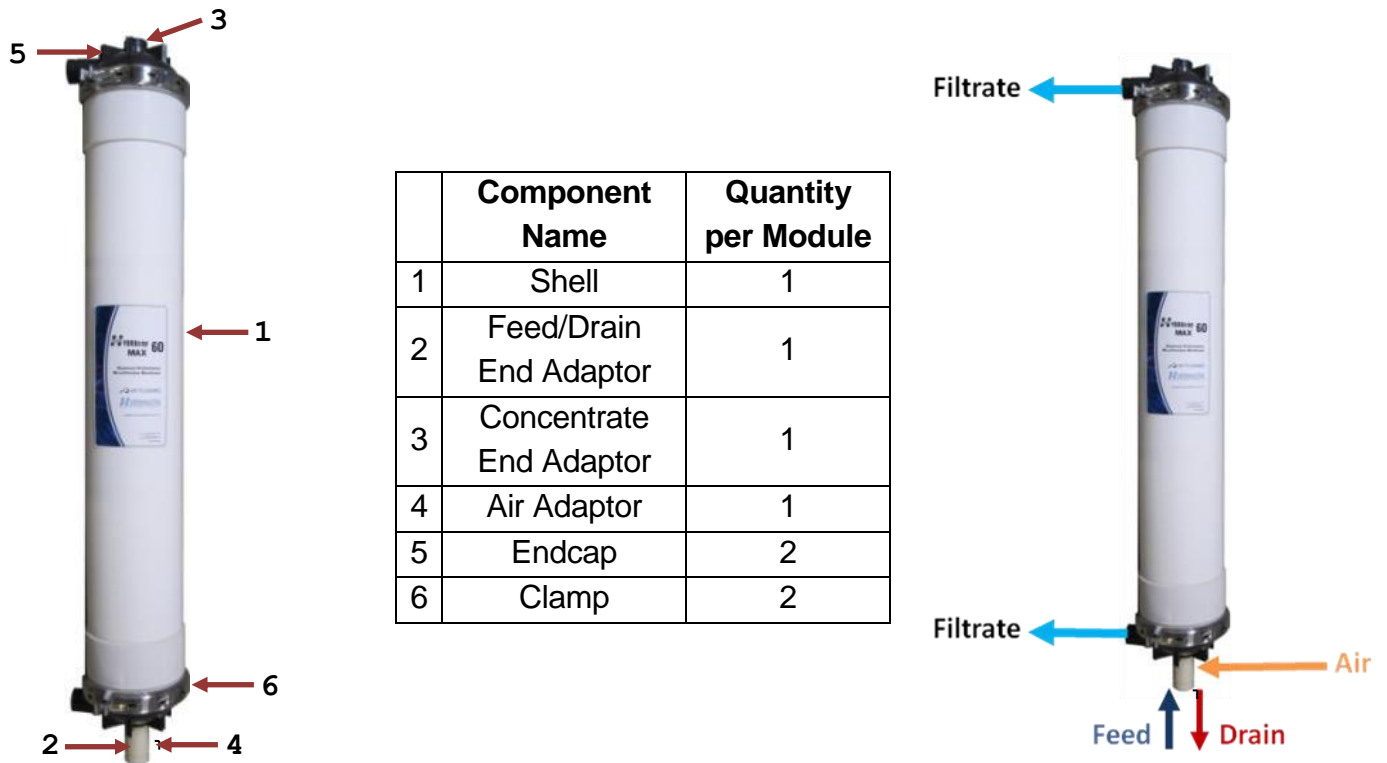

Figure 1: Module Components and Port Configuration
1. The modules can ONLY be installed vertically with the concentrate connection at the top (see figure 1).
2. Feed water should enter the bottom of the module through the feed end adaptor (# 2 in Figure 1 above).